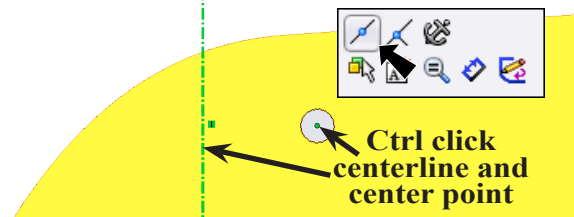
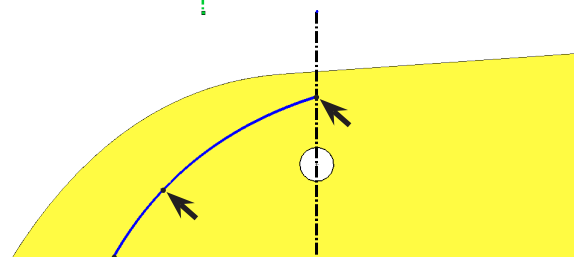

Fig. 78
Fig. 79
Step 8. **Ctrl click the vertical centerline and centerpoint of axle converted circle** to select both, **Fig. 78**. To Ctrl click, click centerline, then hold down the Ctrl key and click the centerpoint of converted circle.
Step 9. Click **Make Midpoint**  on the Content menu, **Fig. 78**.
Step 10. Click **Spline**  (S) on the Sketch toolbar.
Step 11. Draw **3 point spline** between bottom edge of body in front of axle hole and centerline above axle hole, **Fig. 79**. **Right click drawing and click End spline** from menu.